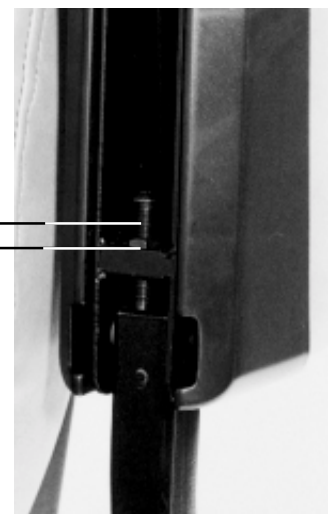

Figure 15. Armrest Angle Adjustment
2. Use a 7/16-in. wrench to loosen the jam nut. See figure 15.